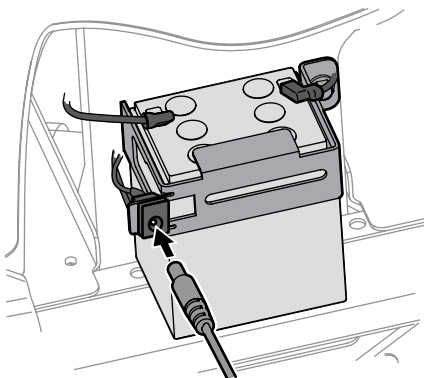

Figure 4-13
- a. A separately available charging unit is available for this tractor. Instructions for using this feature will accompany the battery charging accessory. The charging unit will plug in right next to the battery as shown in Figure 4-13. To order the battery charger, see the Parts/Warranty supplement sheet.